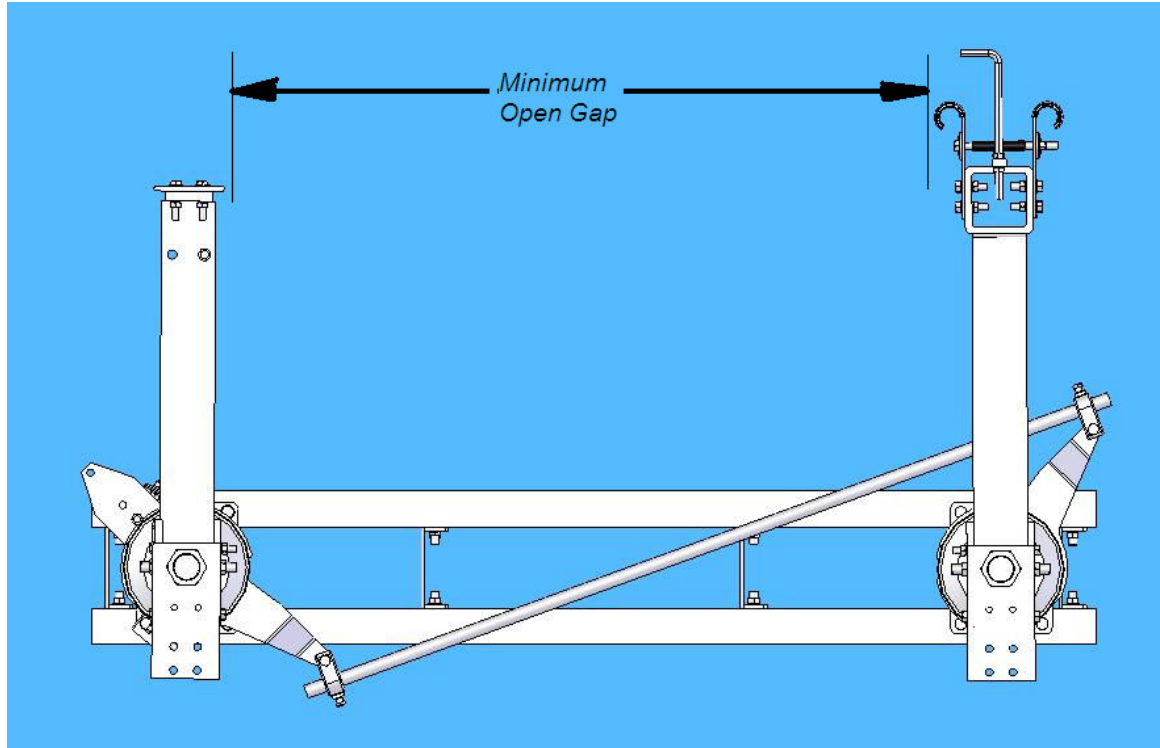

Figure 22: Switch – Fully Open Position (Top View)
4.2. Open the disconnect switch with the operator. The switch is in the fully open position when both blades are approximately 90° to the switch base. Refer to **Figure 22**.